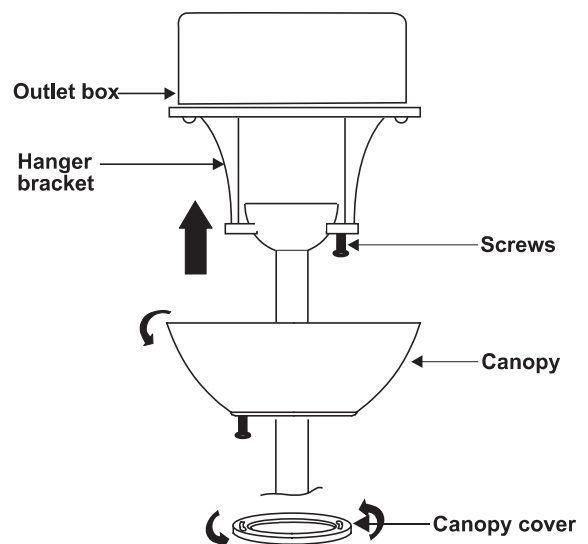

Figure 14
6. Slide the canopy up to hanger bracket and place the key hole on the canopy over the screw on the hanger bracket, turn canopy until it locks in place at the narrow section of the key holes. Note: adjust the canopy screws as necessary until the canopy and canopy cover are snug. (Fig.14)